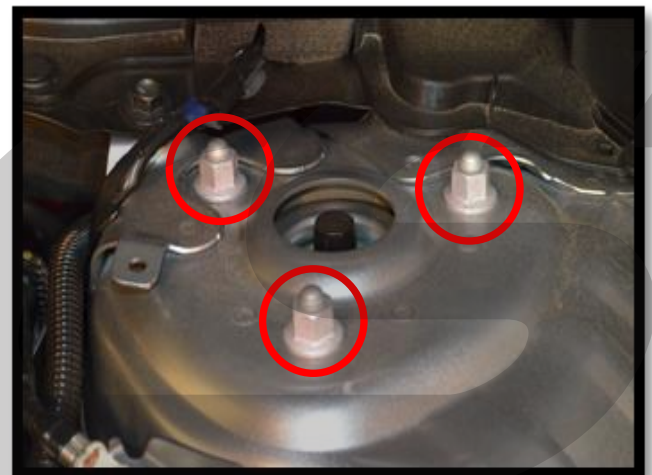

Figure 2f
- g) Remove the three (3) 14mm nuts holding the strut to the strut tower (Figure 2f).
- g) **Remove the three (3) 14mm nuts** holding the strut to the strut tower (red circles in Figure 2f).